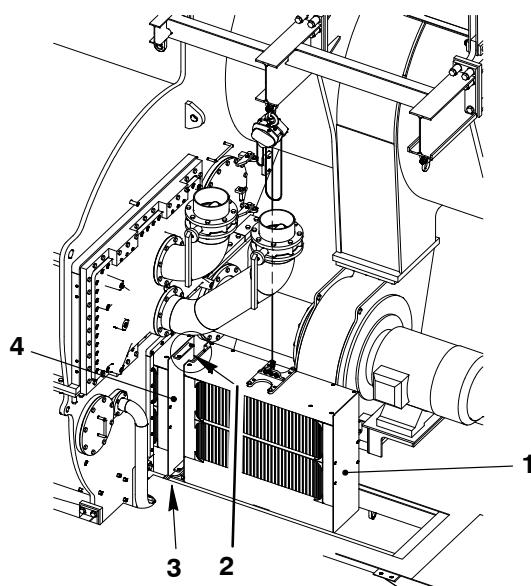

Fig. 14
- 2) Align the front and rear water separators (1 and 4, Fig. 14).
- 3) Install the two top screws (2) and the two bottom screws (3) to keep the water separators together.
- 6) Remove the tool (94667) from the water separator (1).